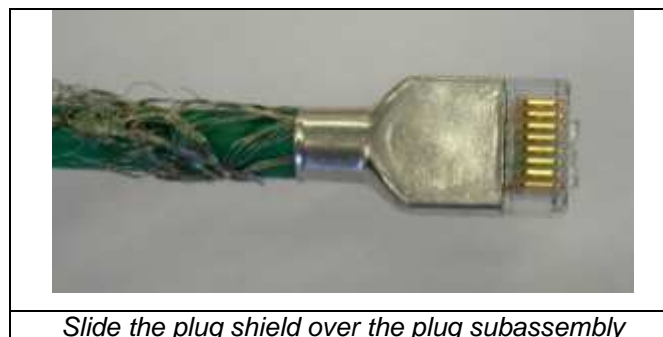

Figure 11
1. Slide the plug shield over the plug subassembly until it seats against the front edge of recessed area around the outside of the plug housing. See figure 11.